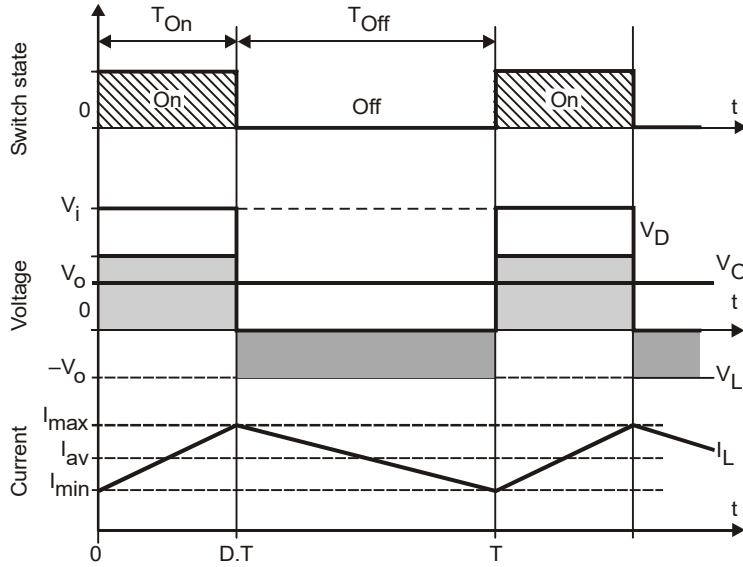

Fig. 5.6: Evolution of the voltages and currents with time in an ideal buck converter operating in continuous mode.
A buck converter is said to be operated in continuous mode if the current through the inductor (I_L) never falls to zero during the commutation cycle. To describe the operating principle of buck converter in this mode, consider the plots as shown in Fig. 5.6.
- Assuming that the converter operates in the steady state condition, the energy stored in each component at the end of a commutation cycle T is equal to that at the beginning of the cycle. It shows that the magnitude of current I_L remains the same at $t = 0$ and at $t = T$ (see figure 5.6). From the above equations we get:
- As per the above equations, the quantities can be represented graphically, as shown in Fig. 5.6. Here ΔL_{on} and ΔL_{off} are represented by different rectangles (gray and dark gray). Under steady-state conditions, the area of rectangle for the quantity $(V_i - V_o) t_{on}$ must be equal to the area of rectangle for the quantity $-V_o t_{off}$. From the Fig. 5.6, it is clear that $t_{on} = DT$ and $t_{off} = (1 - D) T$